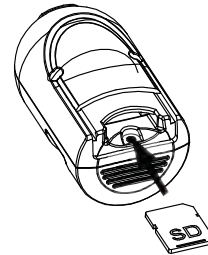

FIGURE 5
(2) Insert SD card into the card slot (FIGURE 5).